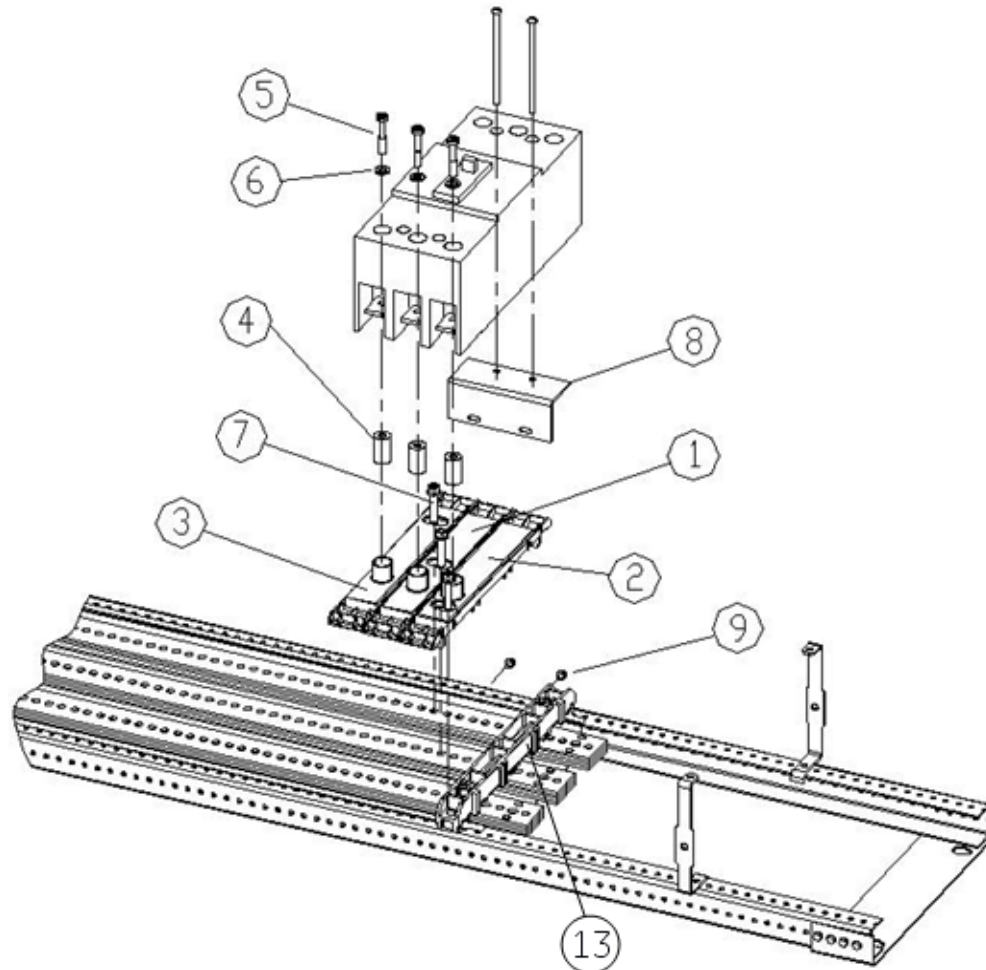
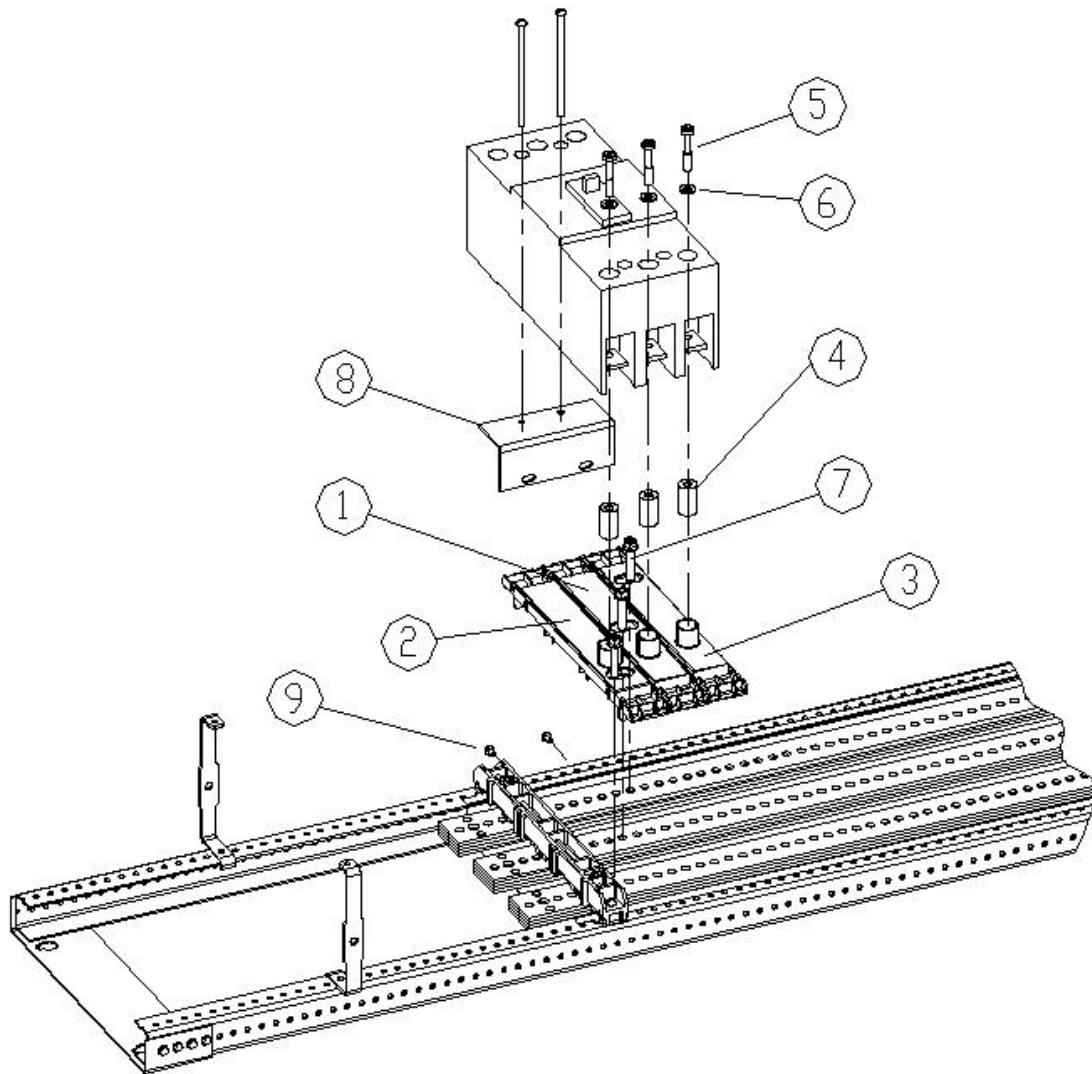

Figure 1. Installation of a SF circuit breaker kit on left side of interior, catalog number ASPP6SF3S, into an A-Series® II Panelboards.
Figure 2. Installation of a SF circuit breaker kit on right side of interior, catalog number ASPP6SF3S, into an A-Series® II Panelboards.
Use the following procedure to install a SF circuit breaker kit. Call-out numbers in the illustrations and numbers in brackets in the text refer to the Item Numbers in Table 1. Installation of a three-pole kit is illustrated in Figure 1 or Figure 2.
4. Refer fig. no.1 to mount the breaker on left side of interior. Place branch base for A phase [2] adjacent to cross bar [13] as shown in fig.1 and insert the screw [7] through slot provided for A phase to clamp it with main busbar. Similarly mount
B phase [1] branch base to B phase main busbar but adjacent to A phase branch base and C phase [3] branch base to C phase main busbar but adjacent to B phase branch base as shown in fig. 1. All phase branch bases [1],[2] and [3] should be clamped with main bus using screws[7] with 60 in-lb. Maximum.
5. Refer fig. no.2 to mount the breaker on left side of interior. Place branch base for A phase[2] adjacent to cross bar[13] as shown in fig.1 and insert the screw [7] through slot provided for A phase to clamp it with main busbar. Similarly mount B phase [1] branch busbar to B phase main busbar but adjacent to A phase branch base and C phase [3] branch busbar to C phase main busbar but adjacent to B phase branch base as shown in fig. 2. All phase branch bases [1],[2] and [3] should be clamped with main bus using screws[7] with 50-70 in-lb.
7. Place the conical washer [6] over the three $\frac{1}{4}$ -28 x $1\frac{3}{8}$ screws [5] and insert the screws through the holes in the top of the circuit breaker. Secure the three spools [4] to the underside of the breaker terminal with the screws [5]. Take care to assemble the screws to the spools as shown in Figure 1 or Figure 2, with the tapped end of the spool toward the breaker terminal.